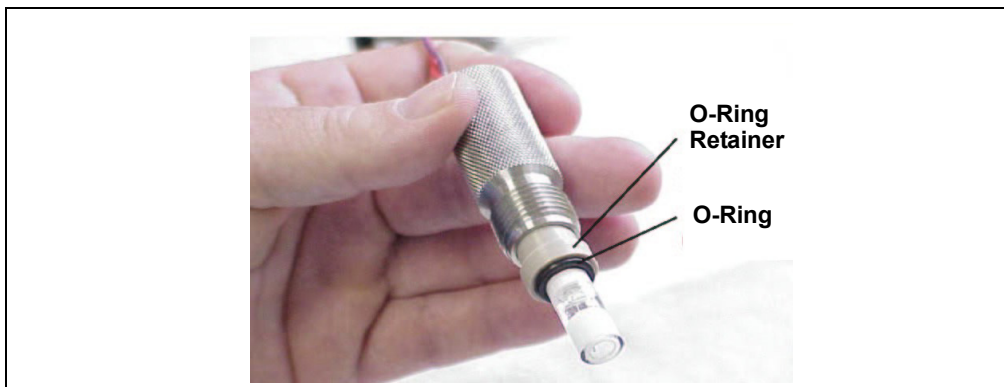

Figure B-11. Installing the O-Ring
5. Slide the PEEK O-ring retainer and CHEMRAZ O-ring onto the electrode (see Figure B-11).